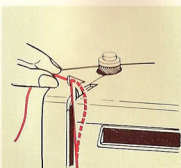

Fig. 4
4. Hook thread into take up lever slot as shown in Fig. 4.